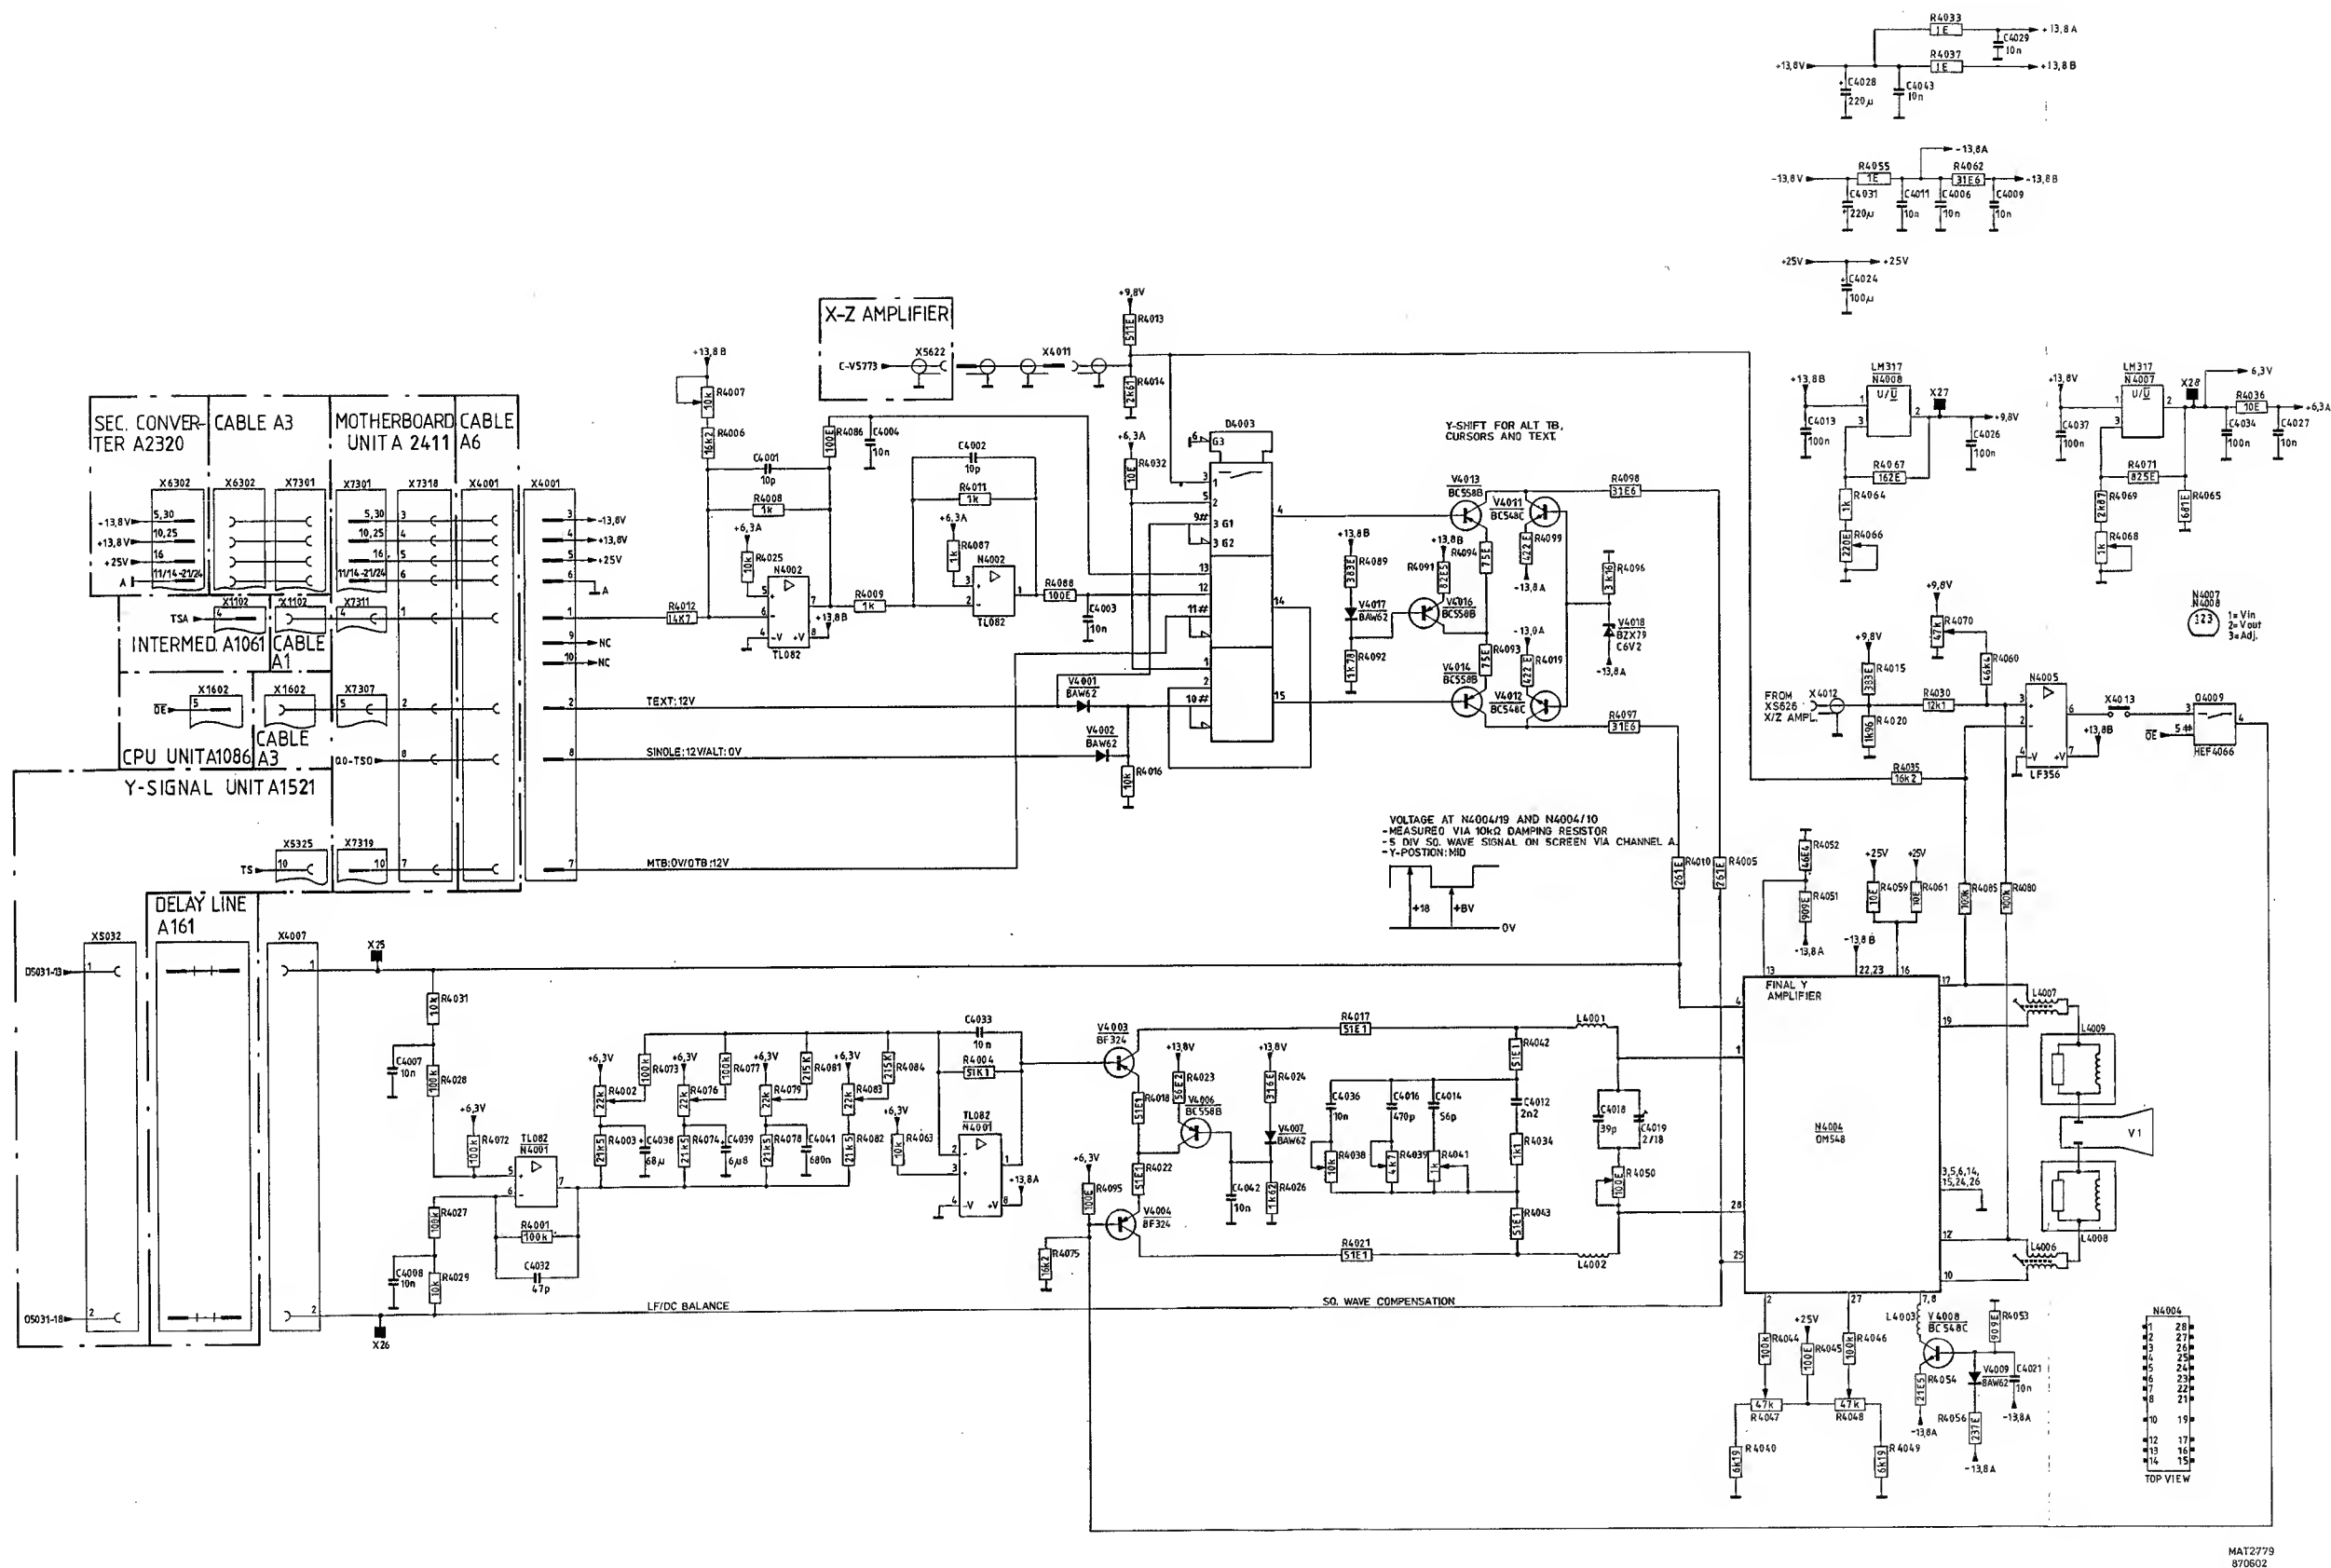

Fig.14.2. Final Y amplifier, circuit diagram.
14. CIRCUIT DESCRIPTION OF FINAL Y AMPLIFIER (See fig.14.2.)